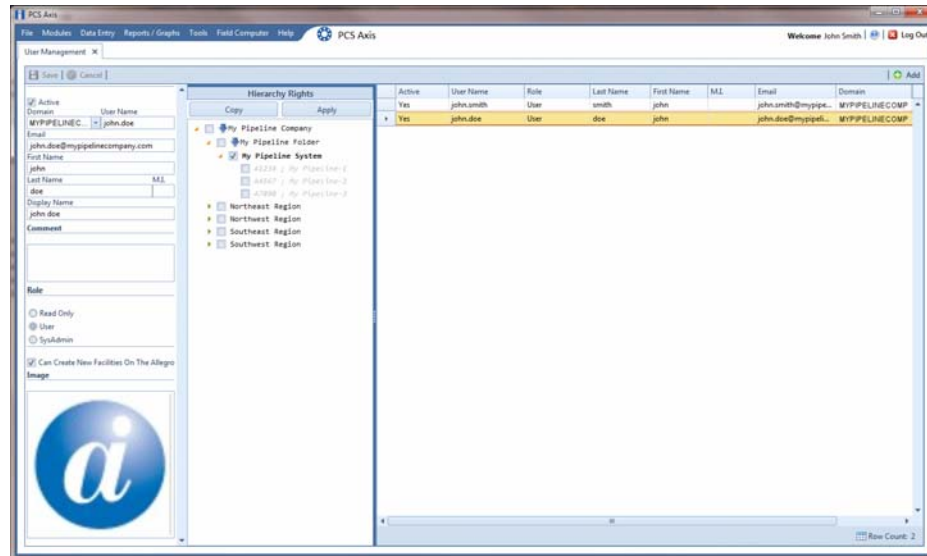

Figure 5-1. Adding a New User
- 1 Click **Tools > User Management > + Add** (Figure 5-1).
- 1 Click **Tools > User Management** (Figure 5-1, page 179).